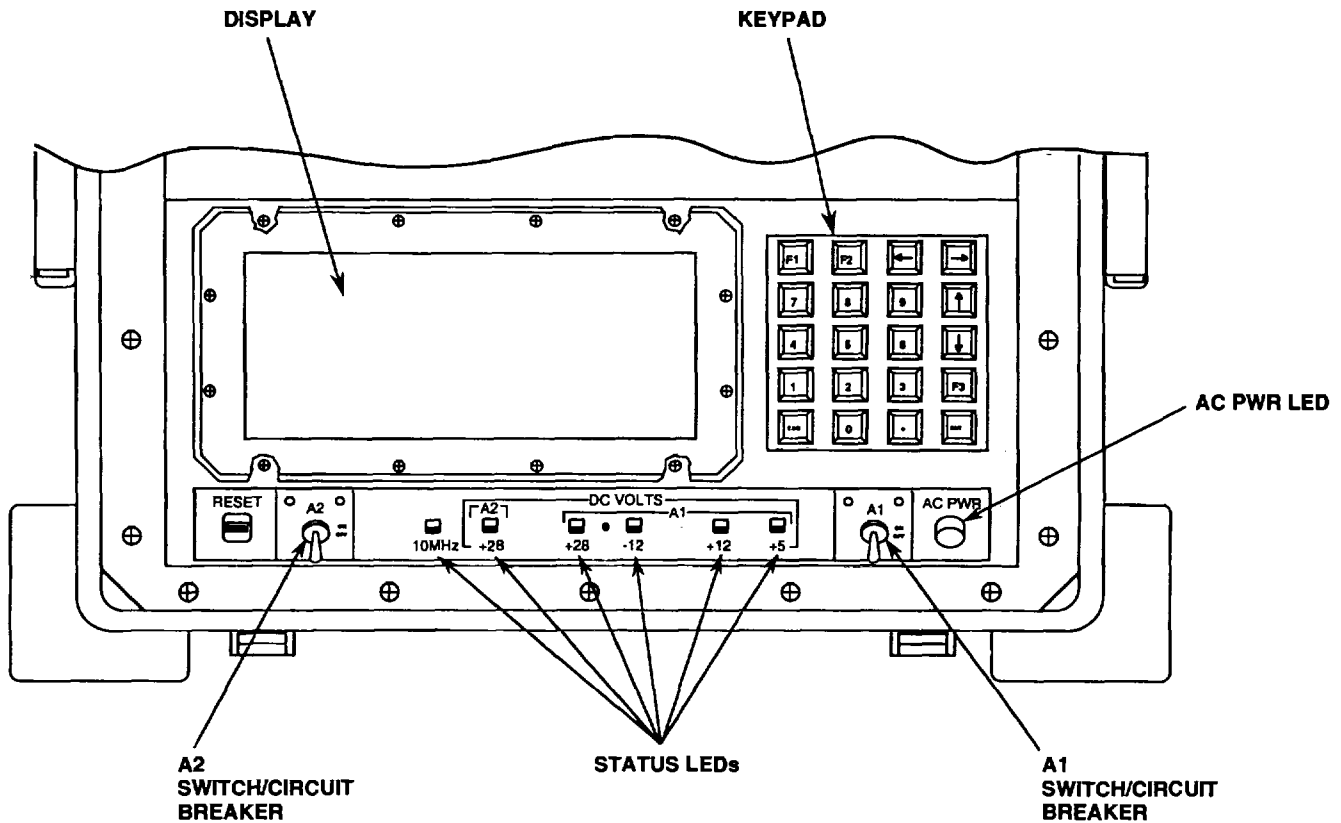
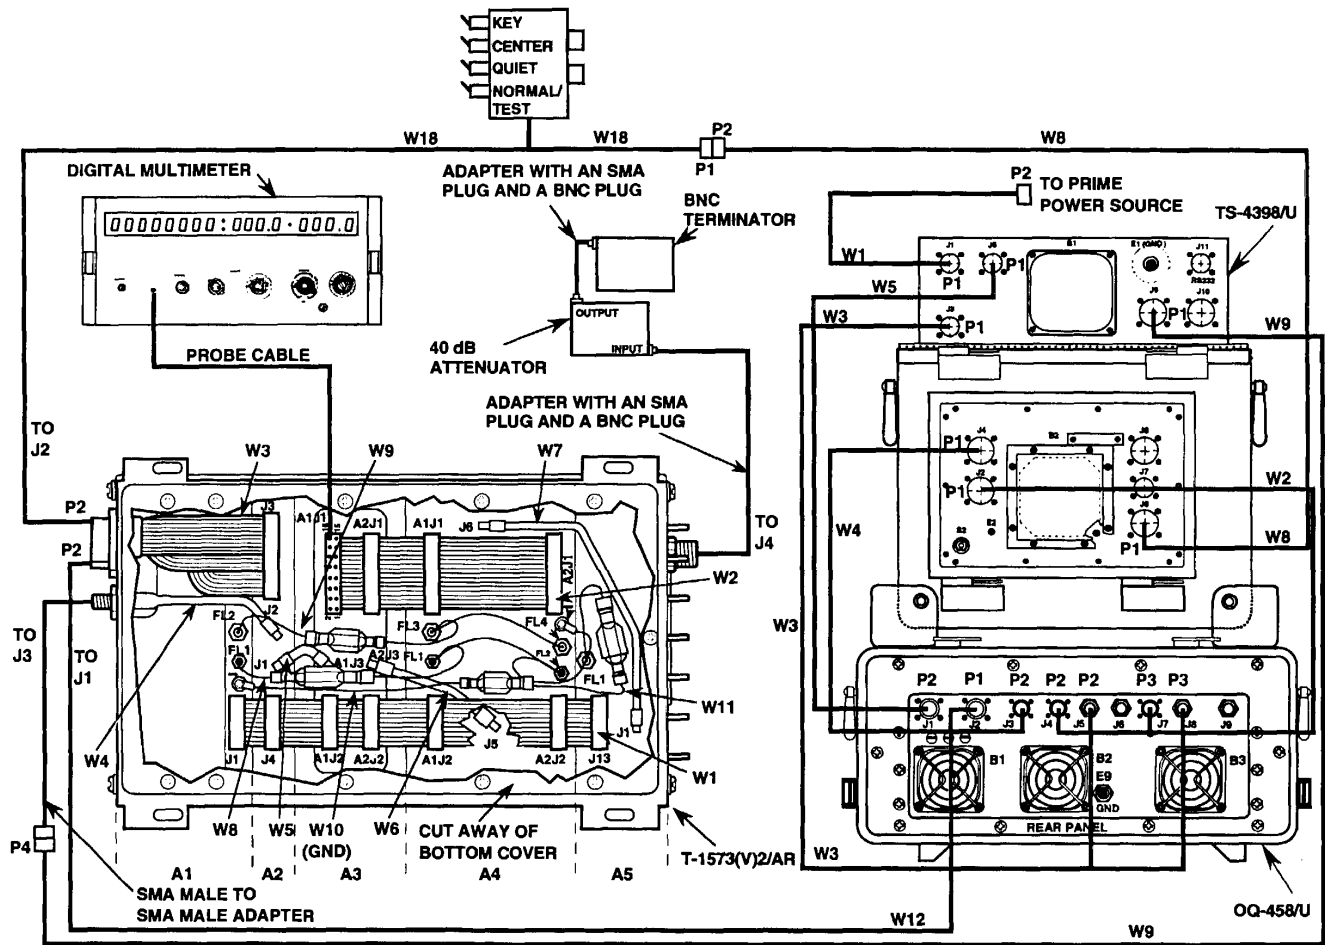
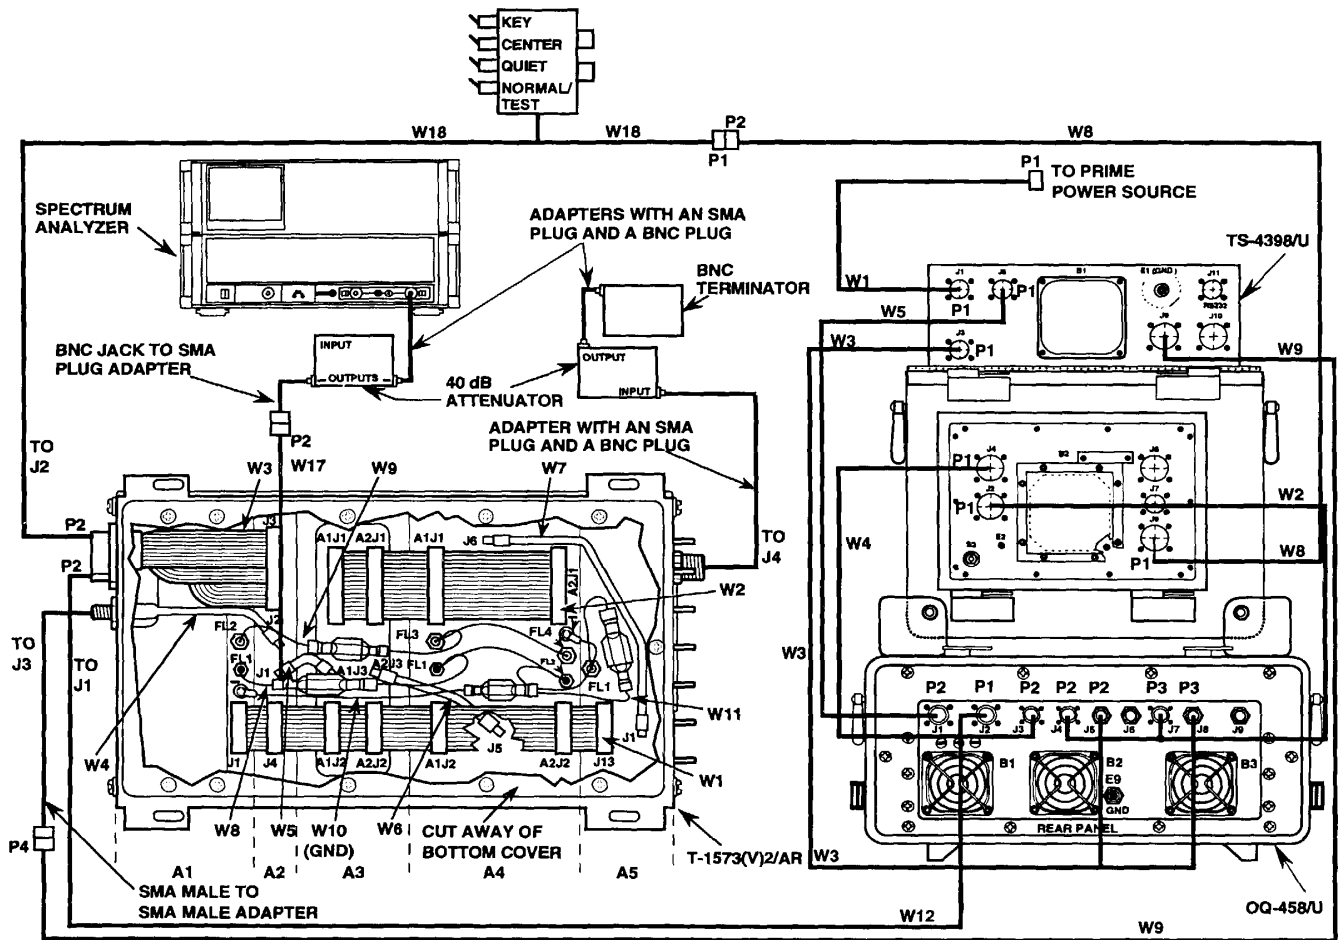

FIGURE 5-36. TS-4398/U CONTROLS AND INDICATORS
FIGURE 5-37. T-1573 (V) 2/AR INTERFACE CONTROL MODULE A3A1J1 TEST INTERCONNECTORS.
FIGURE 5-38. T-1573 (V) 2/AR INTERFACE CONTROL MODULE A2J1 TEST INTERCONNECTIONS.
All cables used during the interface control module test are found in cable assembly case CY-8676/U unless otherwise noted. The interconnections for the test are shown in figures 5-37 and 5-38. Figure 5-37 shows the interface control module A3A1J1 test interconnections. Figure 5-38 shows the interface control module A2J1 test interconnections. The test controller TS-4398/U controls and indicators used during the test are shown in figure 5-36.
48.	Reconnect cable W2 at connector A3A1J1 (see figure 5-38).